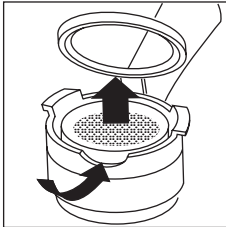

fig. 33
- Push the filter holder button and remove the filter (fig. 33). Clean the inside of the filter holder. Never wash in a dishwasher.